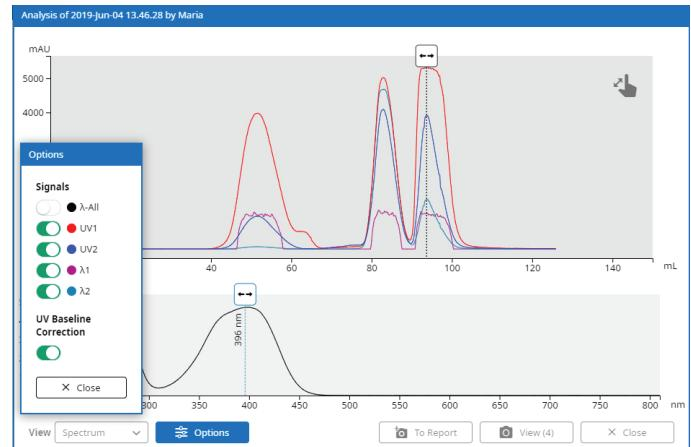

Figure 24. The Options dialog.
- » Enable and disable signals and the UV baseline correction (if used) individually by pressing **Options**; see Figure 24.